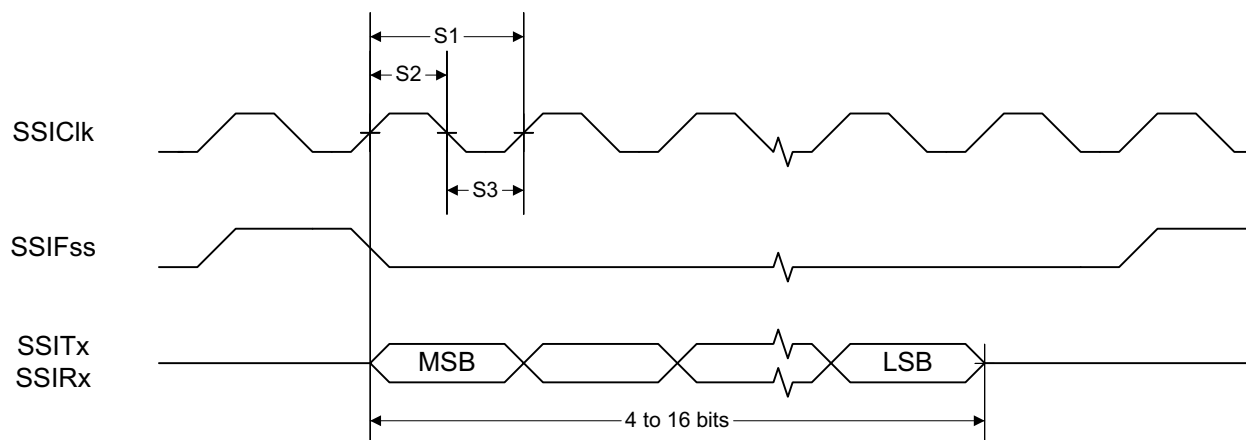
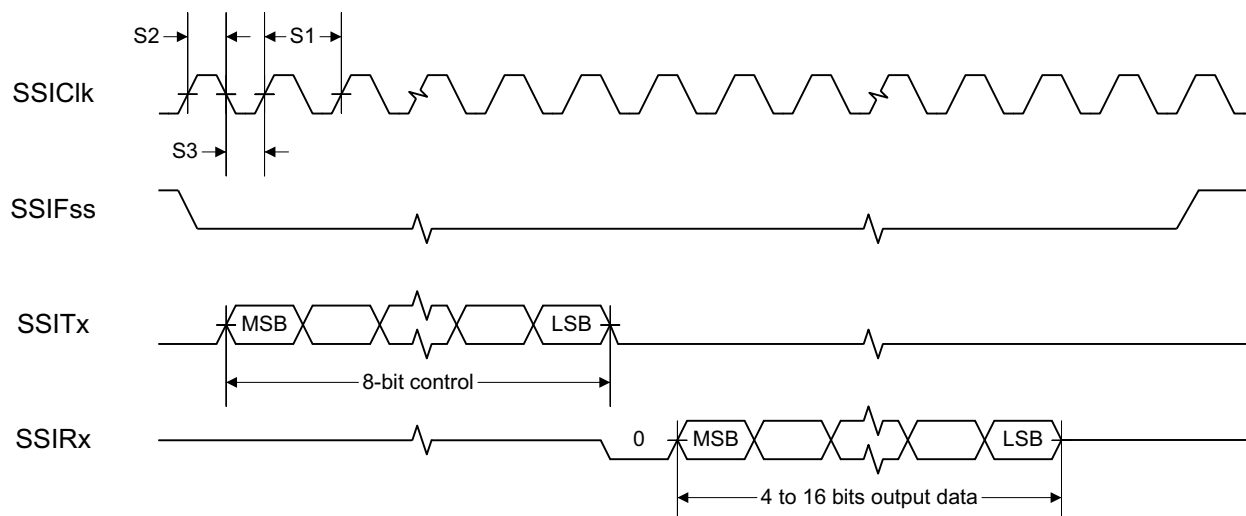
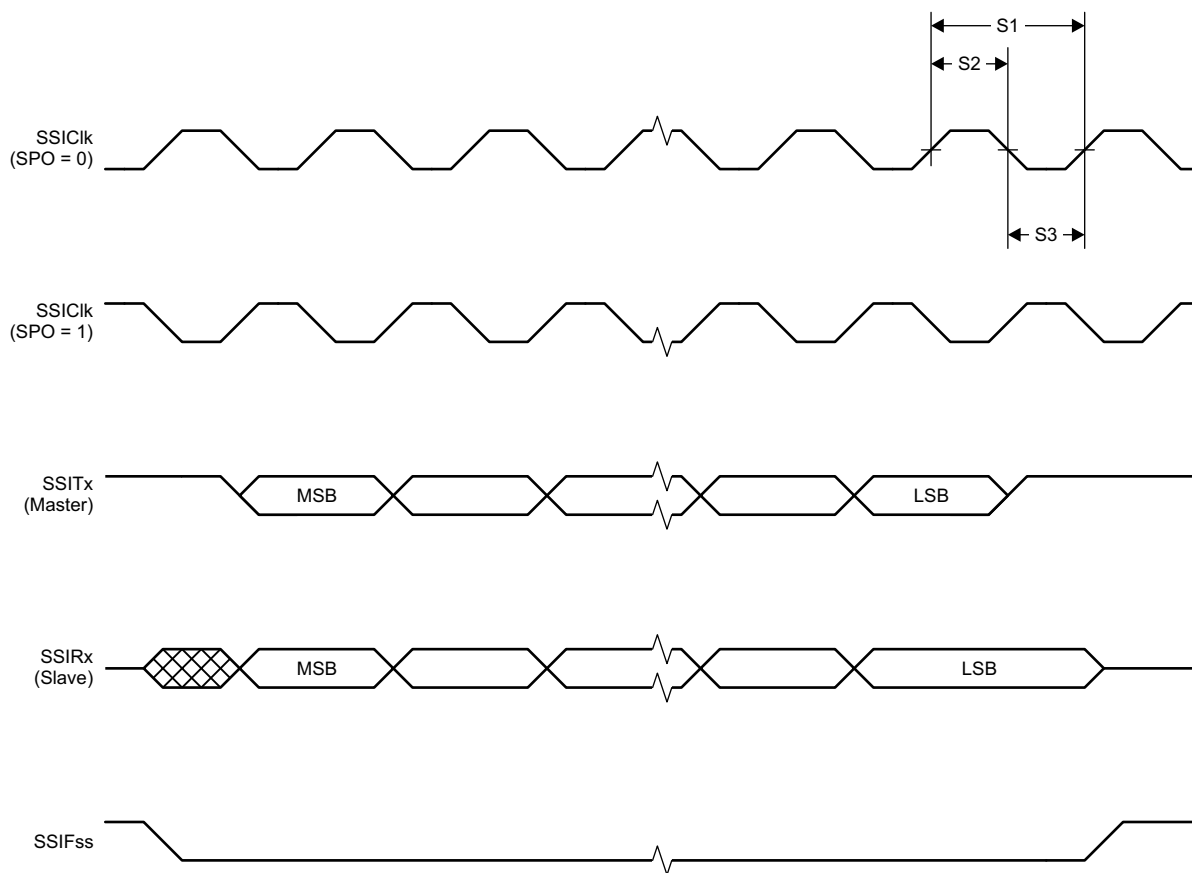

Figure 8-1. SSI Timing for TI Frame Format (FRF = 01), Single Transfer Timing Measurement
Figure 8-2. SSI Timing for MICROWIRE Frame Format (FRF = 10), Single Transfer
Figure 8-3. SSI Timing for SPI Frame Format (FRF = 00), With SPH = 1
(1) Refer to SSI timing diagrams Figure 8-1, Figure 8-2, and Figure 8-3
(2) When using the TI-provided Power driver, the SSI system clock is always 48 MHz.